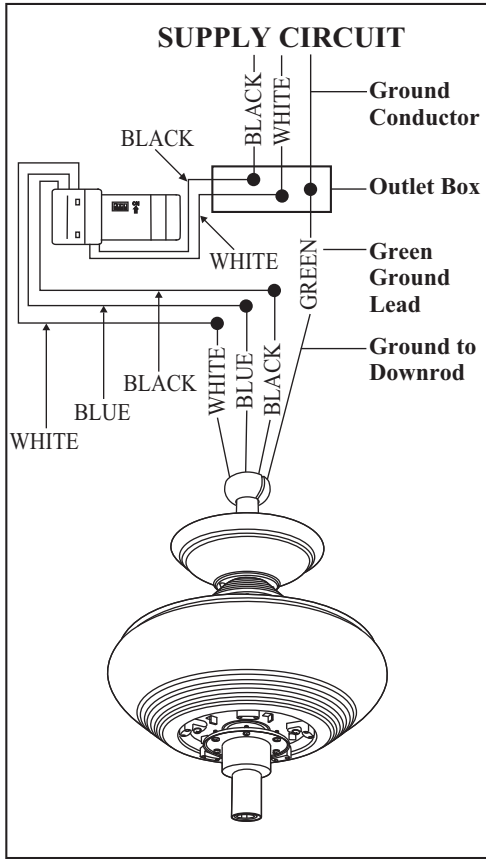

Figure 12
2. (Fig. 12) Motor to receiver electrical connections: Connect the black wire from the fan to black wire marked "TO MOTOR L". Connect the white wire from the fan to the white wire marked "TO MOTOR N" from the receiver. Connect the blue wire from the fan to the blue wire marked "For Light" from the receiver. Secure the wire connections with the plastic wire connecting nuts provided.
3. (Figure 12) Receiver to house supply wires electrical connections: Connect the black (hot) wire from the ceiling to the black wire marked "AC in L" from the receiver. Connect the white(neutral) wire from the ceiling to the white wire marked "AC in N" from the receiver. Secure the wire connections with the plastic wire connecting nuts provided.
4. (Figure 12) If your outlet box has a ground wire (green or bare copper) connect it to the fan ground wires; otherwise connect the hanging bracket ground wire to the mounting bracket. Secure the wire connection with a plastic wire connecting nut provided. After connecting the wires spread them apart so that the green and white wires are on one side of the outlet box and black and blue wires are on the other side. Carefully tuck the wire connections up into the outlet box.